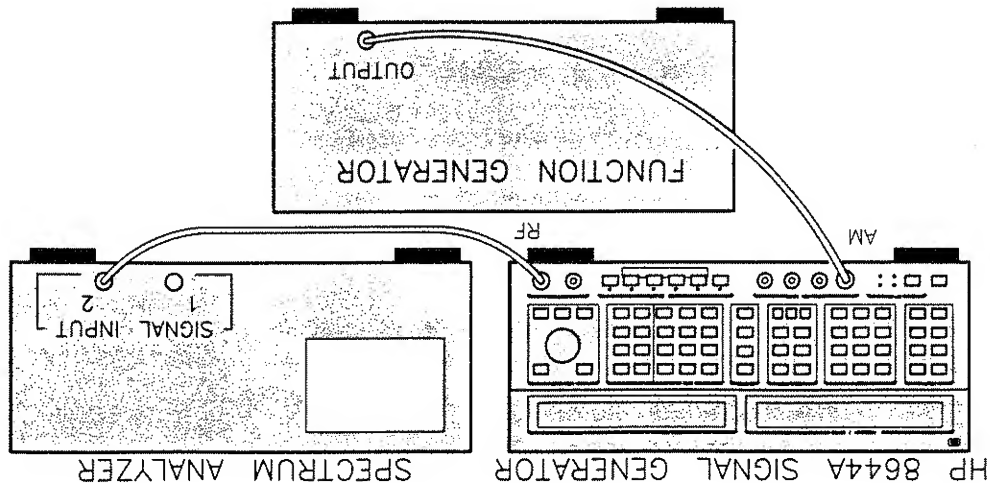

Figure 2-8. Equipment Setup for Simultaneous FM and AM Procedure.
1. Connect the HP 8644A to the Spectrum Analyzer and Function Generator as shown in figure 2-8. Turn on the equipment and make the following adjustments: